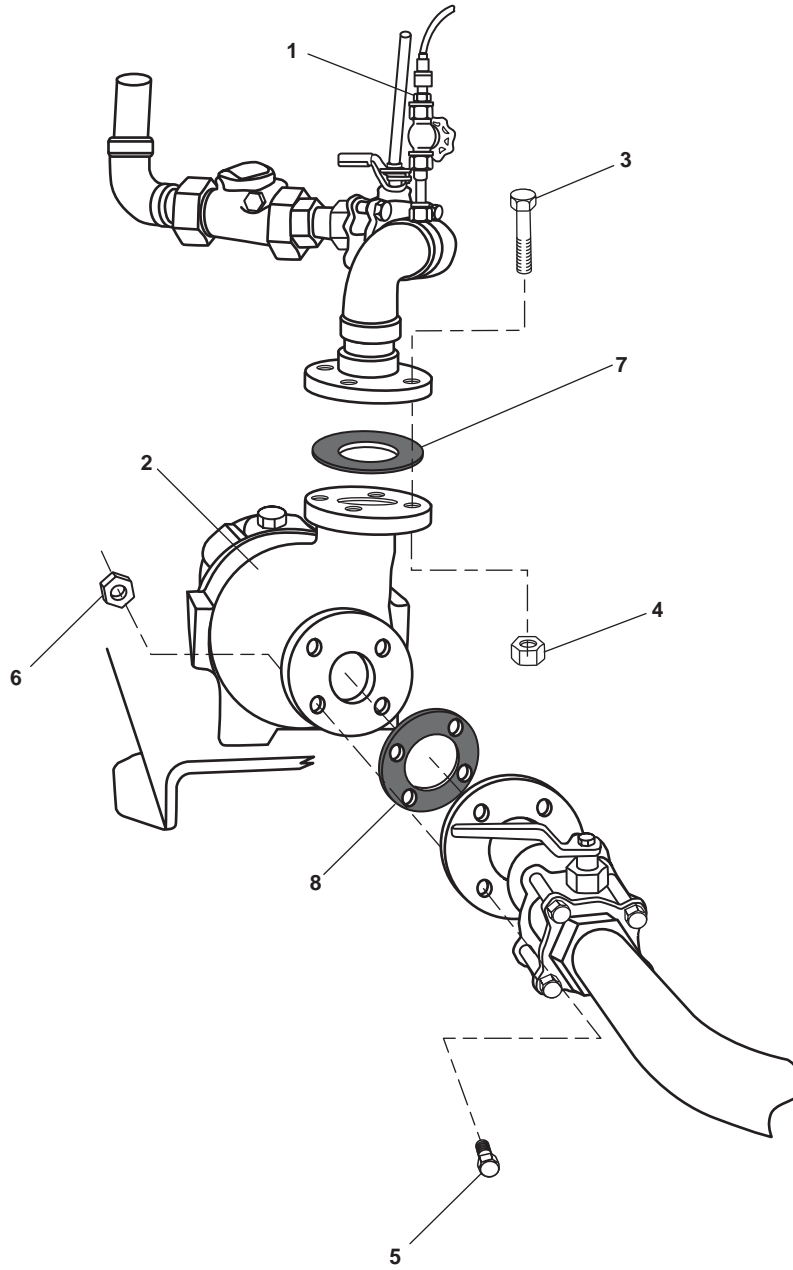

Figure 1. Sewage Discharge Pump
2. Slowly OPEN the pressure gauge fitting (figure 1, item 1) to relieve pressure from the sewage discharge pump (figure 1, item 2).
3. After all pressure has been released, remove the bolts (figure 1, item 3) and the nuts (figure 1, item 4) securing the sewage discharge pump (figure 1, item 2) to the vessel's discharge piping.
4. Remove the bolts (figure 1, item 5) and the nuts (figure 1, item 6) securing the sewage discharge pump's inlet (figure 1, item 2) to the vessel's inlet piping.
5. Remove the gaskets (figure 1, items 7 and 8) from the sewage discharge pump (figure 1, item 2). Discard the gaskets.
3. Install the bolts (figure 1, item 5), a new gasket (figure 1, item 8), and the nuts (figure 1, item 6) in the vessel's piping. Do not tighten the bolts at this time.
4. Install the bolts (figure 1, item 3), a new gasket (figure 1, item 7), and the nuts (figure 1, item 4) securing the pump to the vessel's piping.
5. Tighten the bolts (figure 1, items 3 and 5) securing the sewage discharge pump to the vessel's piping.